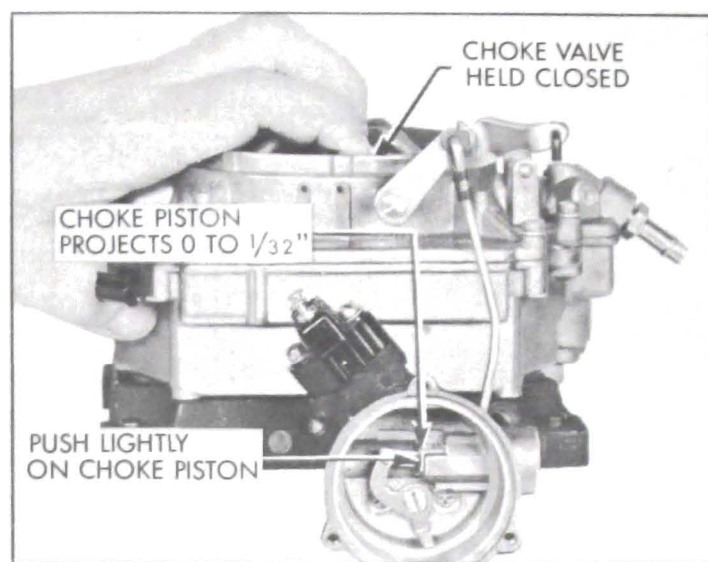
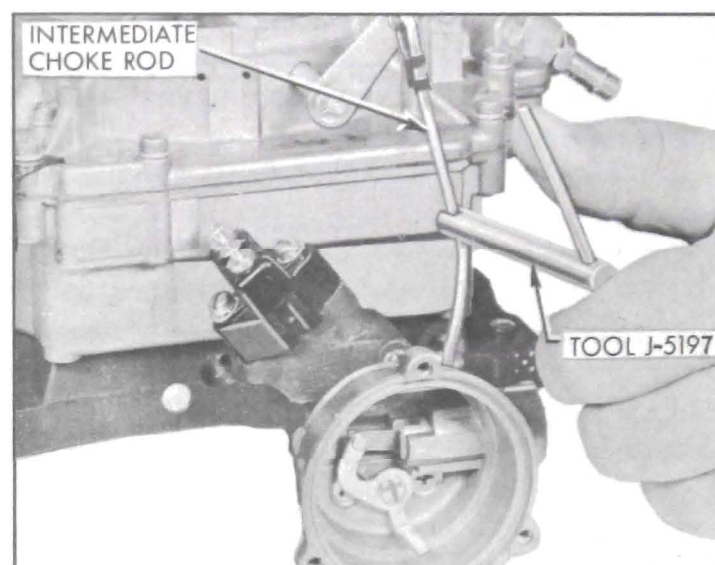

Figure 3-101—Checking Choke Piston Adjustment
Figure 3-102—Adjusting Choke Piston
27. With choke valve held tightly closed, and with choke piston pushed lightly toward its cylinder (to take-up any linkage slack), check to see that choke piston is projecting from cylinder between 0 and $\frac{1}{32}$ ". See figure 3-101. If adjustment is required, bend intermediate choke rod using Tool J-5197. See figure 3-102.